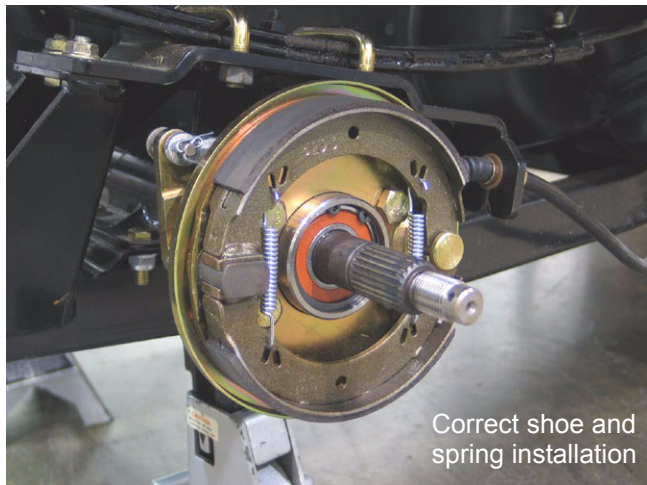

Figure 2.18
- 2.18. Confirm that the shoes and springs are properly seated. See Figure 2.18.